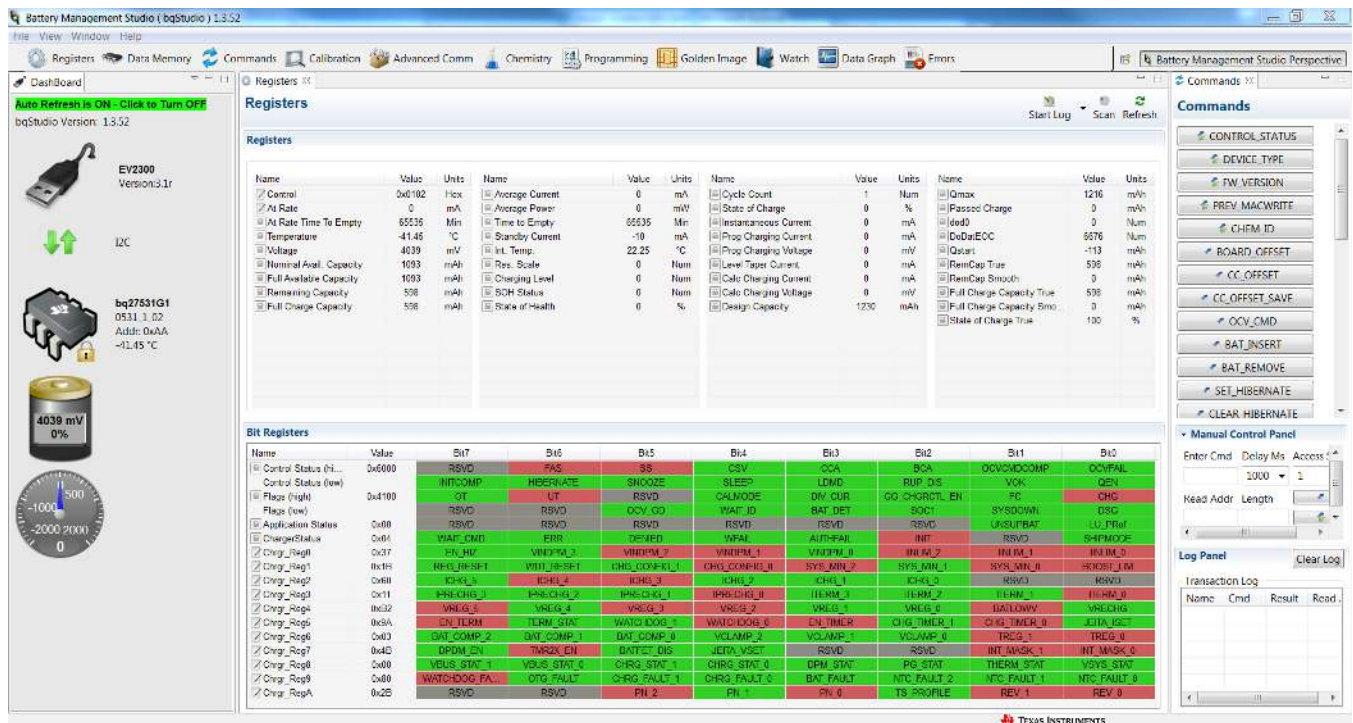
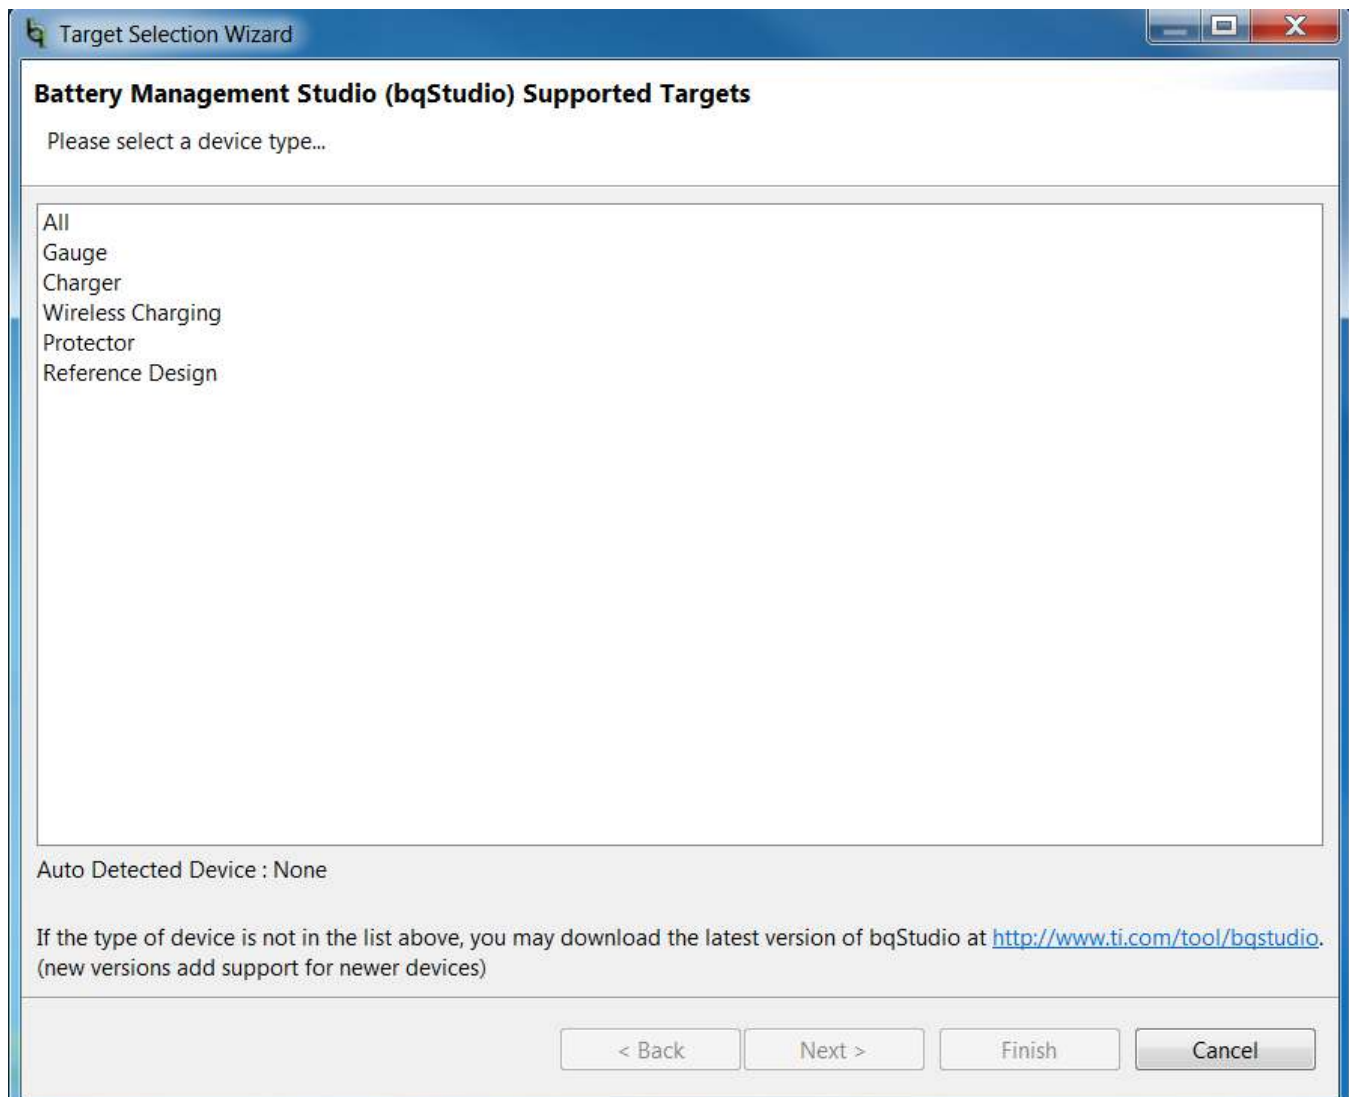

Figure 9. Registers Screen
Figure 10. bqStudio Default Page
- Turn on the computer. Open the bq27531 evaluation software. The main window of the software is shown in Figure 9 (DataRAM Screen).
Run bqStudio from the Start | All Programs | Texas Instruments | Battery Management Studio. The main screen (Figure 9) appears. If instead of Figure 9 appearing, Figure 10 appears, it may mean that the EVM is not connected to the computer correctly. Make sure that the USB interface (EV2300 or EV2400 or GDK) and the bq27531 are connected and restart bqStudio. If this still does not resolve the issue, check if the I2C pullup resistors are connected. Data begins to appear once the <Refresh> (single-time scan) button is clicked, or when the Scan button is clicked. To disable the scan feature, simply click the **Scan** button again.
This screen (Figure 9) shows the RAM data in the bq27531 device. Additional Flags and Status data can be viewed at the bottom of the Registers screen.